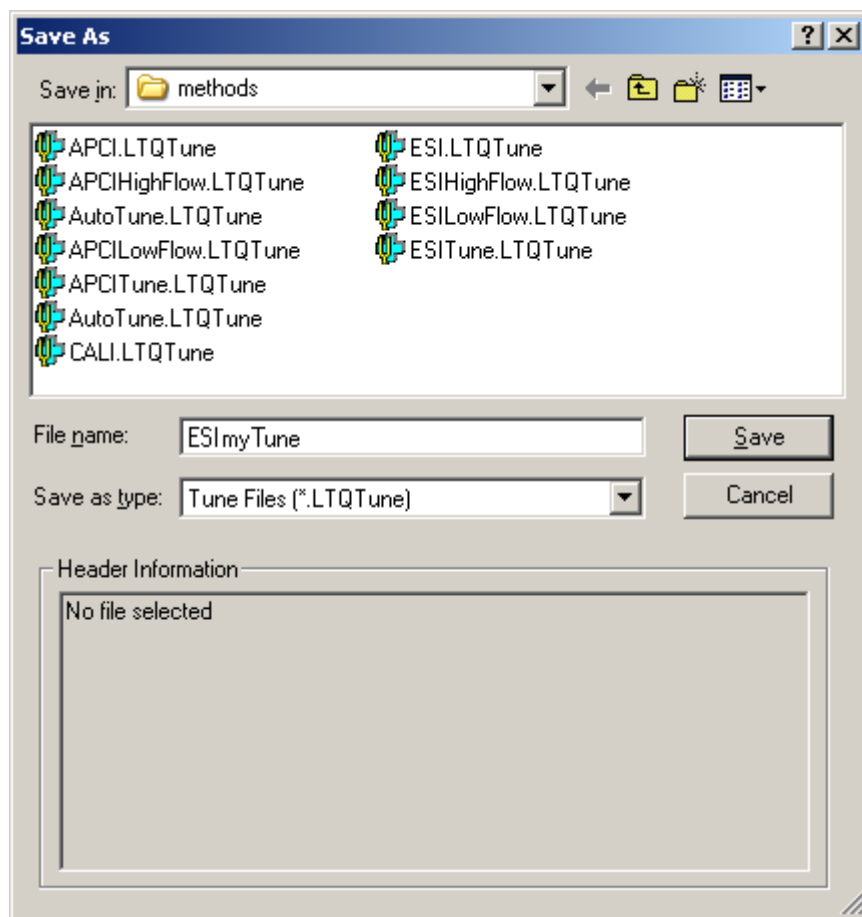

Figure 27. Save As dialog box, showing files in the folder *C:\Xcalibur\methods*
1. Choose **File > Save As** to display the Save As dialog box. See Figure 27.